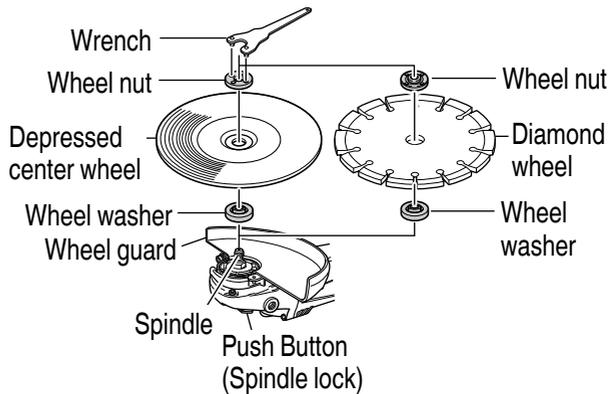

Fig. 2
Confirm that the spindle lock is disengaged by pushing push button two or three times before switching the power tool on. (see **Fig 2**)
1. Assembling (**Fig. 2**)
- (5) Insert the push button to prevent rotation of the spindle, and tighten the wheel nut with the accessory wrench, as shown in **Fig. 2**.